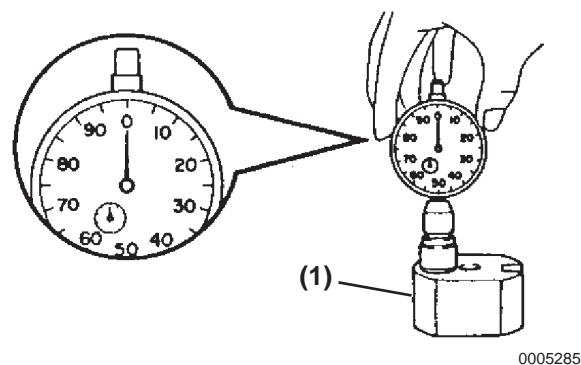

Figure 6-25
2. Adjust the dial indicator reading on the special tool or square block to zero, using the special tool (**Figure 6-25, (1)**).